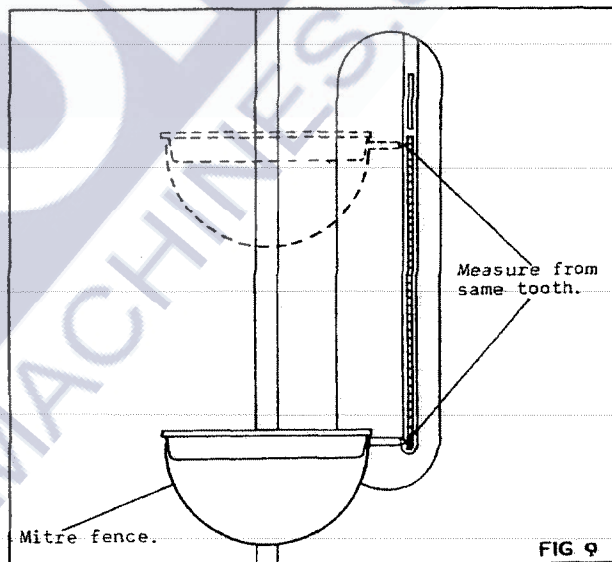

FIG. 9
2. With the saw fitted to arbor, select a tooth and position straight stop rod of mitre fence so that it just touches the saw as shown in Fig. 9.
3. Slide mitre fence to rear position of the saw, swing tooth of saw which was used in item 2. Check whether the stop rod touches the tooth by the same amount. Should the slot be out of align with the saw, position table until correct.